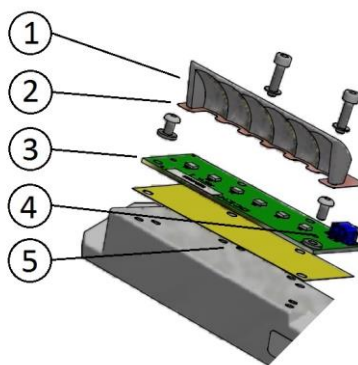

Figure 21 – LED Module Replacement
- disconnect the power supply connector from the LED module (Figure 21 – n°4)
- remove the LED module (Figure 21 – n°3) and the relevant reflector (Figure 21 – n°1) from the mounting plate unscrewing the two screw HSCS M3x12
- check that the thermal interface (Figure 21 – n°5) is placed under the LED module and right-positioned
- check that the Kapton insulating sheet (Figure 21 – n°2) is placed over the LED board is lying down and right-positioned
- reconnect the power supply connector (Figure 21 – n°4) to the LED module